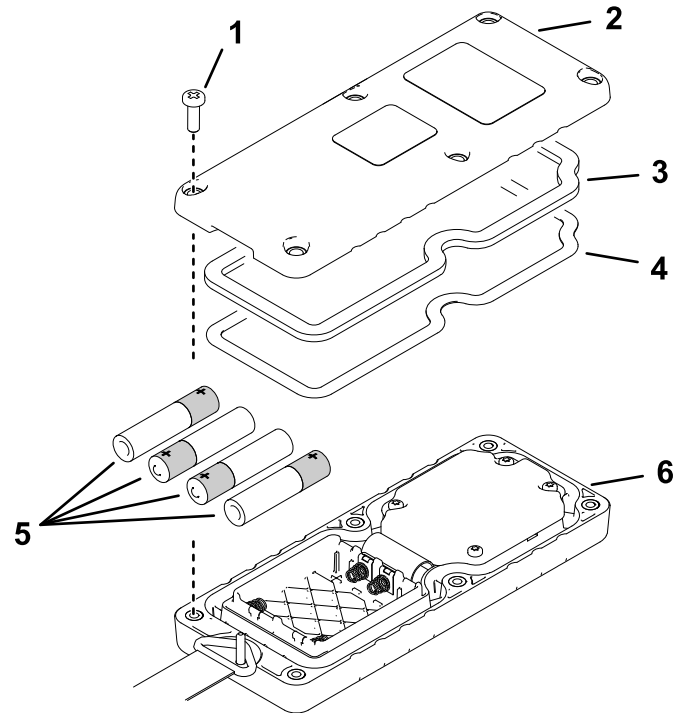

Figure 7
2. Plug each battery into a terminal cradle, observing proper polarity (Figure 7).
3. Ensure that the steel gasket and rubber seal are seated in the channel in the remote and set the back cover in place (Figure 7).
- Secure the cover with 6 screws (Figure 7) and torque them to 1.5 to 1.7 N·m (13 to 15 in-lb).